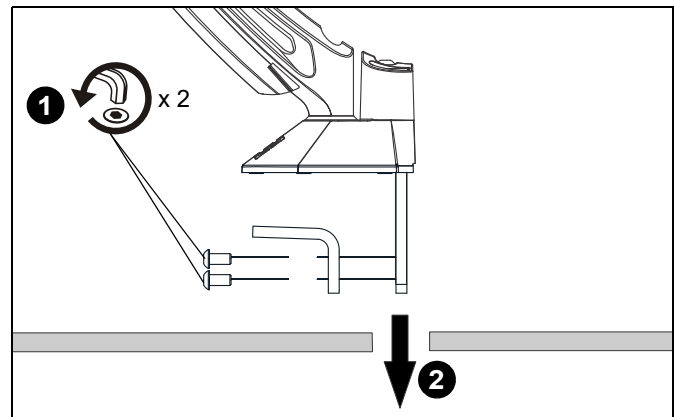

Figure 3
1. Remove lower piece of clamp from assembly by removing two button head cap screws holding piece to assembly. (See Figure 3)
2. Install remaining part of clamp through grommet hole. (See Figure 3)